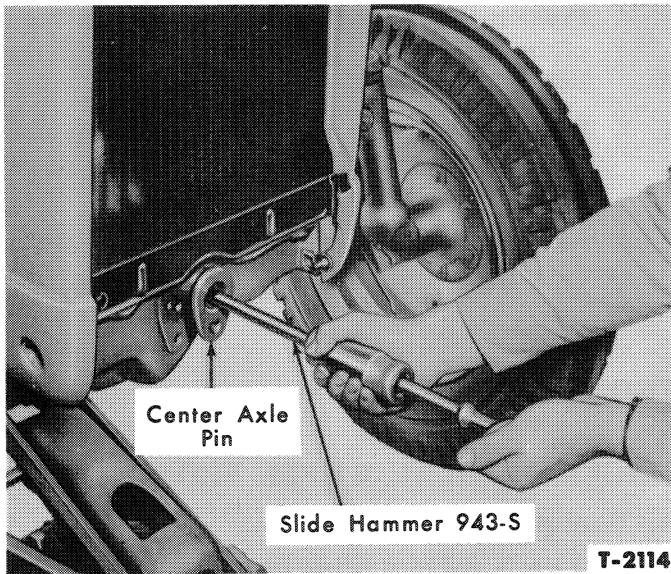

Figure 8—Removing Non-threaded Axle Pin
- b. Use a slide hammer with a suitable adapter and pull the pin as shown in Figure 8.